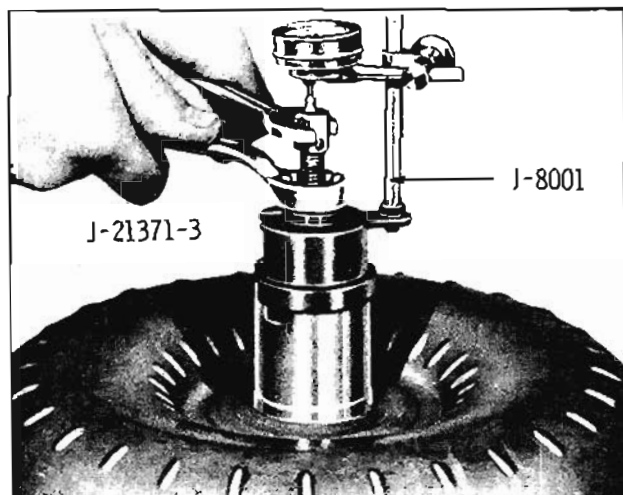

Fig. 6-482 Installing Tool J-21371-3
- b. Install available Tool J-21371-3 and tighten hex nut. (Fig. 6-482)
- c. Install dial indicator set at zero as shown in Fig. 6-482.